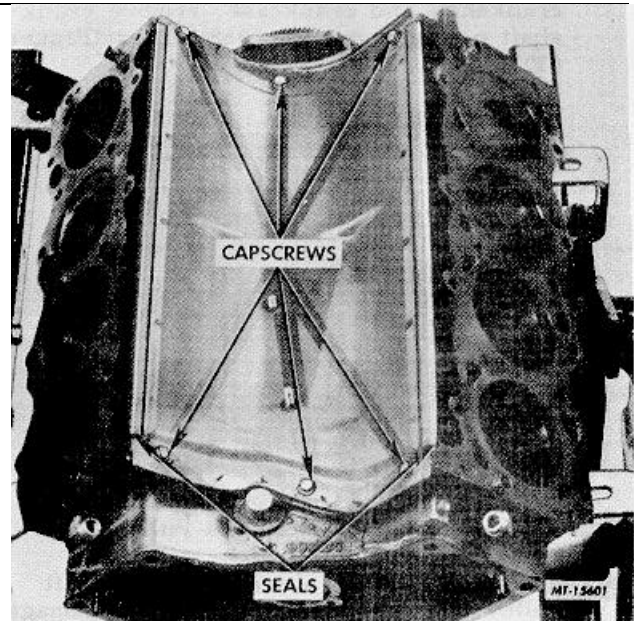

Fig. 69 Tappet Cover Removal
62. Remove capscrews and washers and lift off tappet cover with gasket (Figure 69).